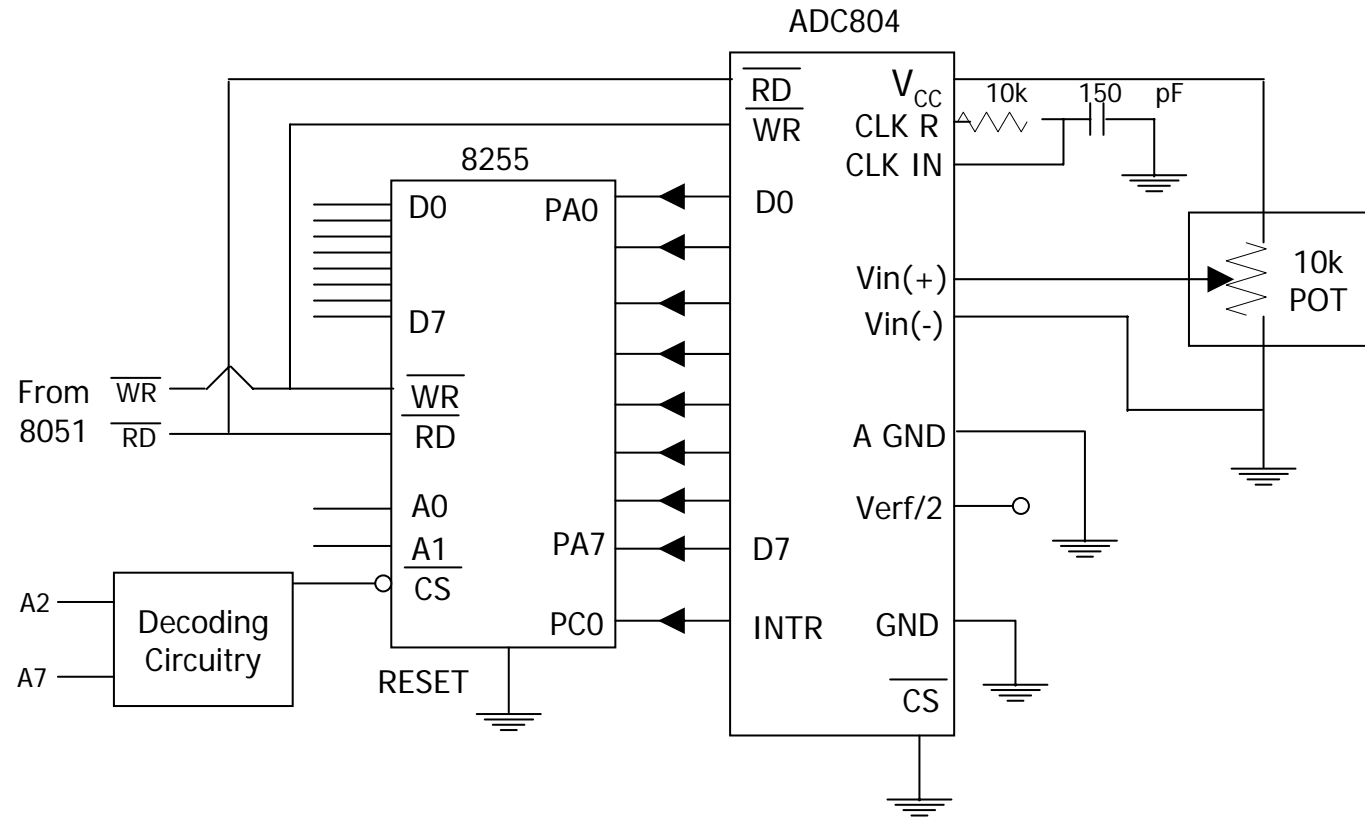

Figure 15-11. 8255 Connection to ADC804
- the following is a program for the ADC connected to 8255 as show in fig 15-11